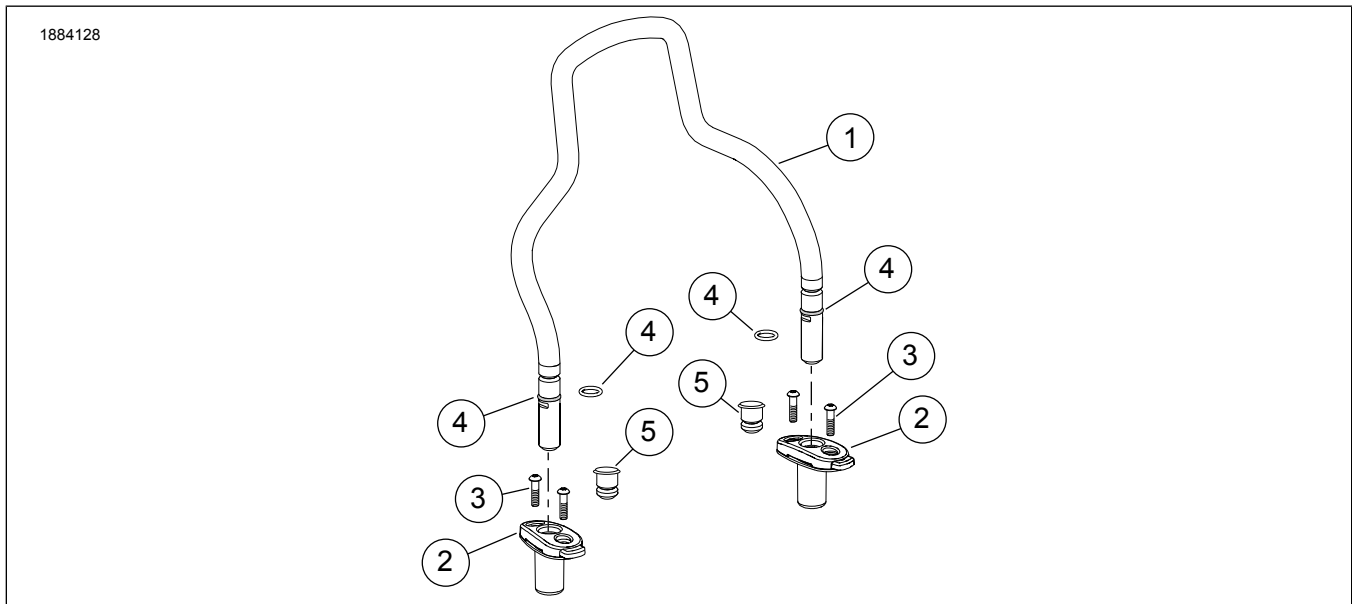
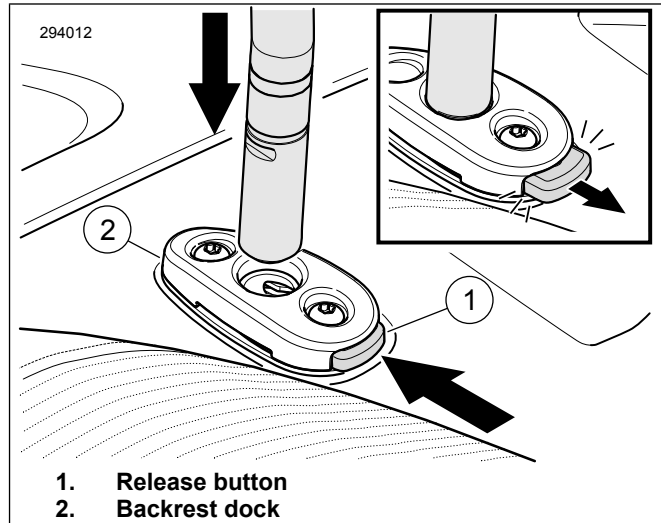

Figure 1. Kit Contents: Quick-Release Sissy Bar Upright Kit
Figure 3. Release Button Locked Position
3. See Figure 3. Align and install upright.
- a. Press release button (1) on backrest dock while inserting one leg of upright.
- b. Press release button (1) on other backrest dock while inserting opposite leg of upright.
5. See Figure 1. If fit of upright in docks is not snug, remove installed O-rings and replace with larger diameter O-rings. Repeat steps 3 and 4.
1. See Figure 1. When upright (1) is removed, install plugs (5).